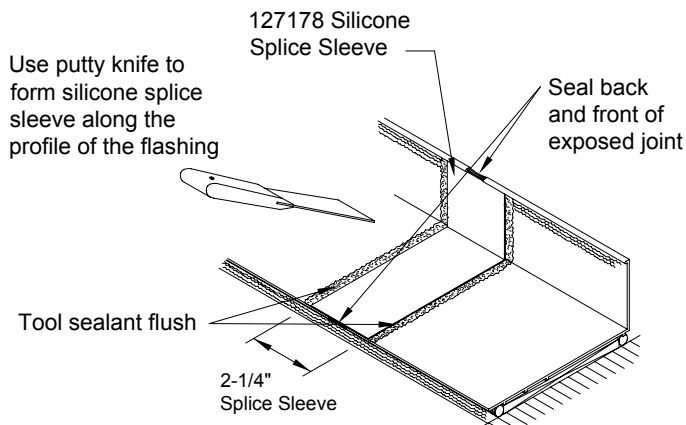

FIGURE 2
5. Center the Splice Sleeve over the joint. Then, using a putty knife, form the Splice Sleeve along the profile of the flashing. (Figure 2)
6. Silicone will squeeze out from under the Splice Sleeve. Use putty knife to tool off excess silicone. (Figure 2)
7. Seal back and front of exposed joint. Be sure to force sealant up under the Splice Sleeve in front. (Figure 2)